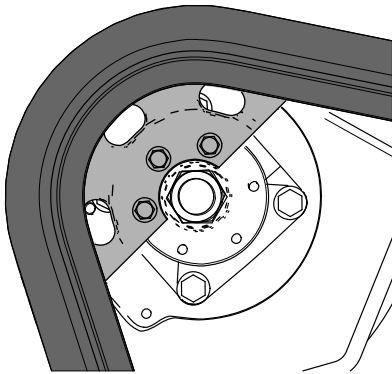

Figure 64
17. Move the traction control forward until the drive sprocket half engages with the track (Figure 64).